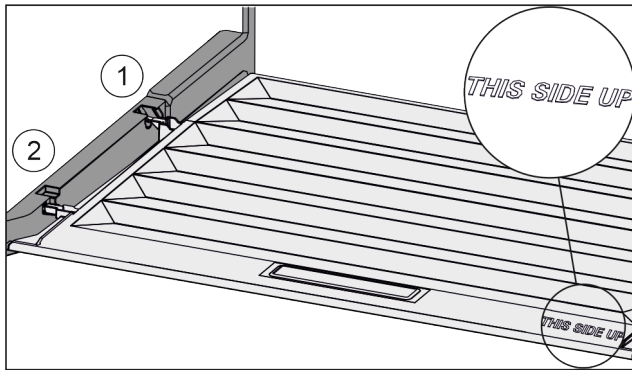

Fig. 36
- ▶ Insert the lip of the cover over the opening of the rear bracket Fig. 36 (1) and click into place Fig. 36 (2).